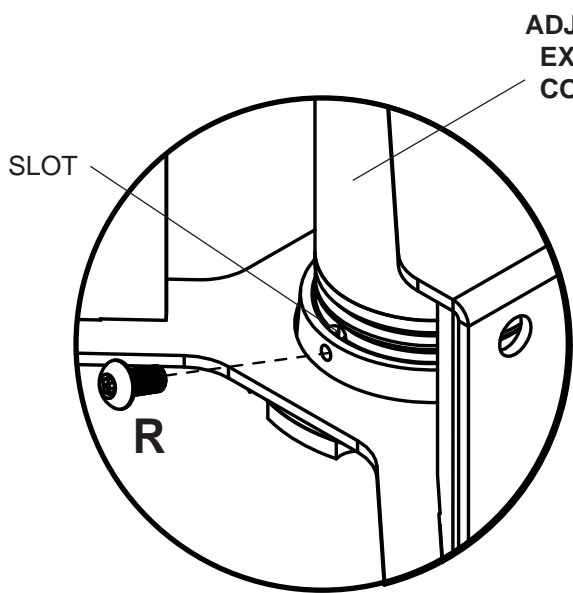

Figure 1.2
Carefully thread retaining collar (W) onto end of extension column. Tighten retaining collar (W) at least four complete turns ending with one of the small holes aligned with slot in the end of extension column. Insert and tighten M5 x 10 mm penta-pin screw (R) using M5 x 1" penta-pin tool (U) as shown in figure 1.2.